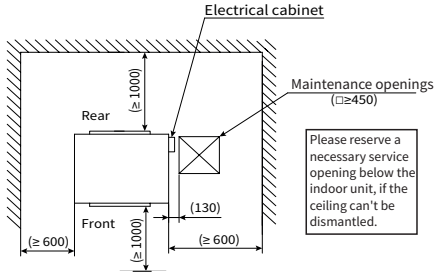

Figure 4.1 Operation and Maintenance Space
- Install the indoor unit in a place that facilitates operation and maintenance as shown in figure 4.1.